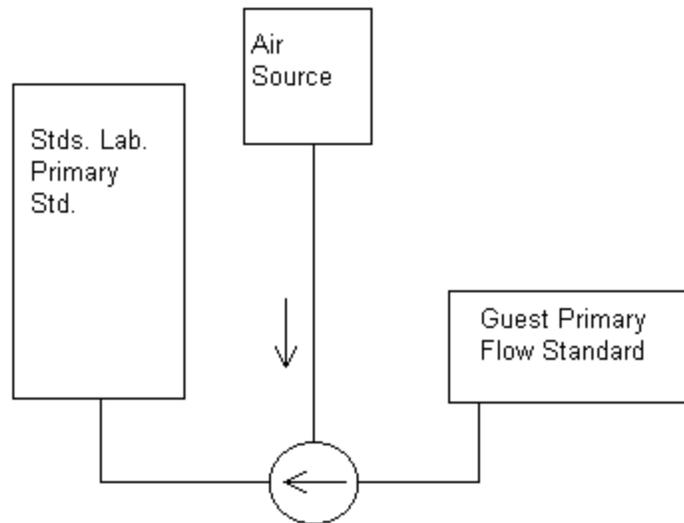

Figure 42
18.1.1 Connect the guest primary flow standard using the diagram below (figure 42). Refer to step 6 to 6.1.1.2. Connect the Teflon line from the mass flow controller to the input of the two-way valve.